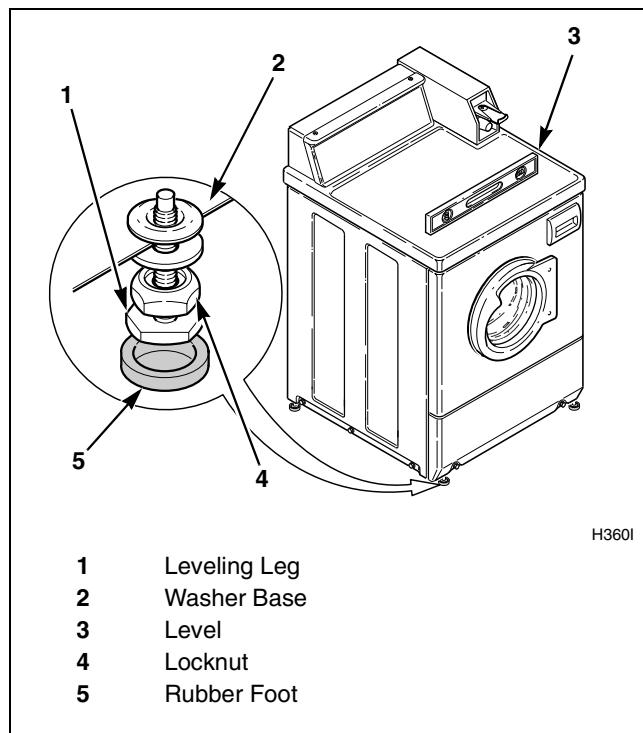

Figure 8
**NOTE: Level must rest on raised portion of top panel. Refer to Figure 8.**